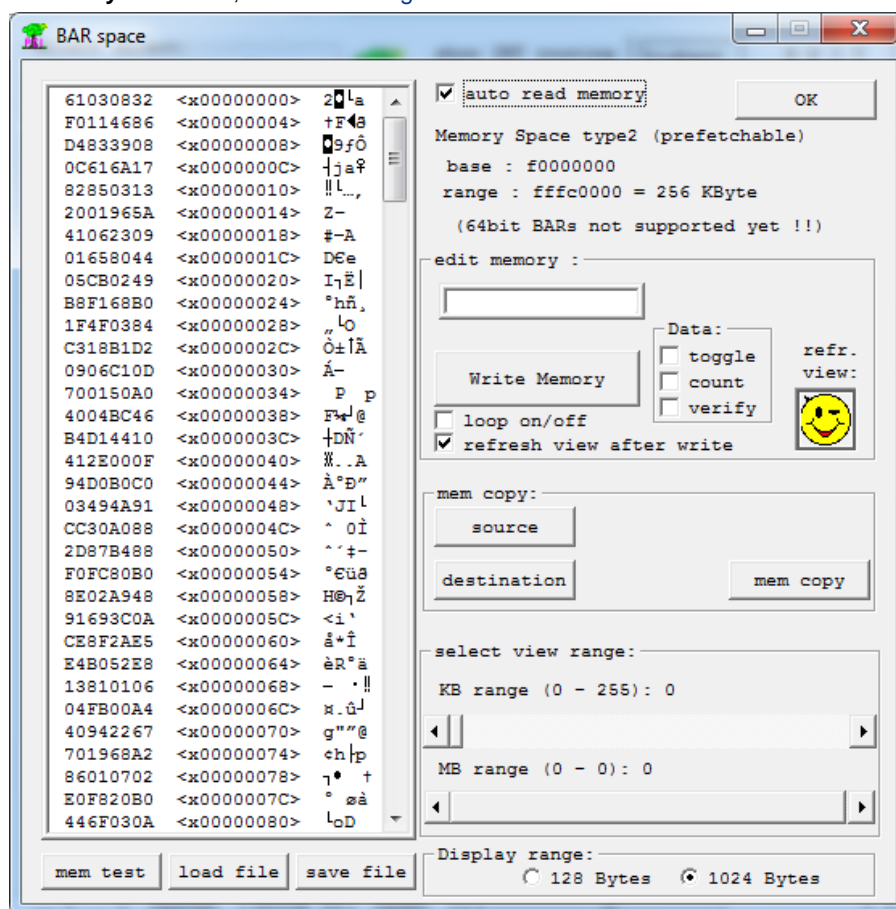

Figure 21. BAR Space
21. Select the **refresh view after write** check box in the Bar space window and select the **auto read memory** check box, as shown in Figure 21.